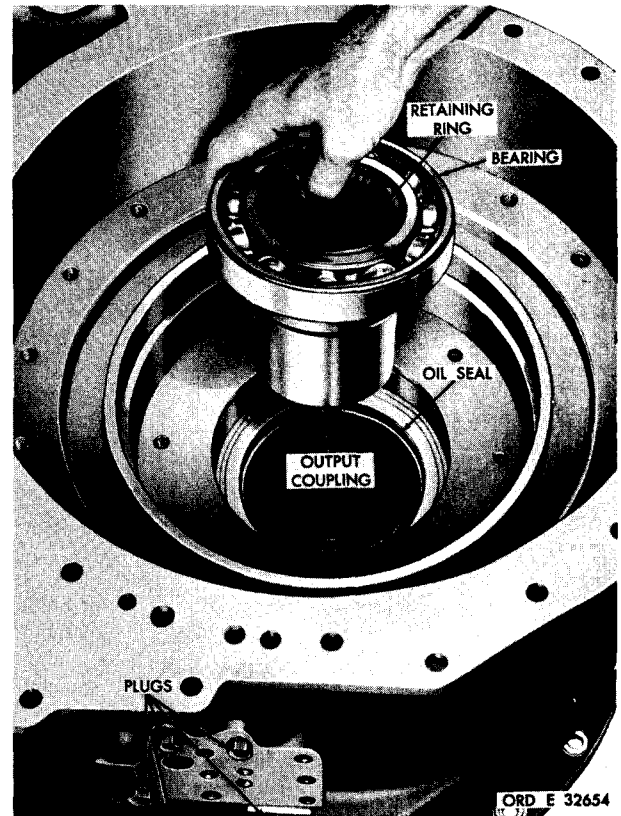

Figure 235. Transmission output coupling and bearing removed
k. Remove the bearing from the output coupling (fig. 235).
l. Do not remove the internal-retaining ring from the output coupling unless replacement is necessary (fig. 235). If necessary, remove the retaining ring.
m. Do not remove the oil seal from the transmission housing unless replacement is necessary (fig. 235). If necessary, drive the oil seal out of the housing.
b. Position the transmission housing on its side. Using replacer 8351210, install the oil seal, lip side up, in its transmission housing bore (fig. 235). Be sure the seal is firmly seated against its shoulder in the housing.
c. Install the bearing onto the output coupling (fig. 235).